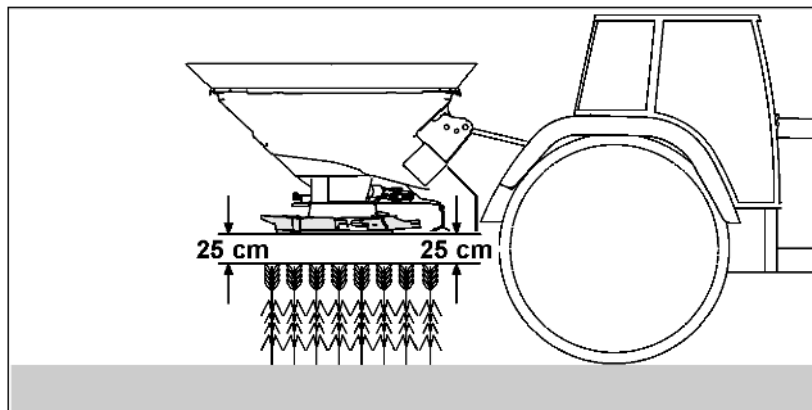

Fig. 49
1. Release locking mechanism (Fig. 49/1).
2. Look for the value for the position of the feed system on the scale (Fig. 49/2).
3. Adjust the read-off edge (Fig. 49/3) on the setting lever (Fig. 49/4) so that it corresponds to the scale value.